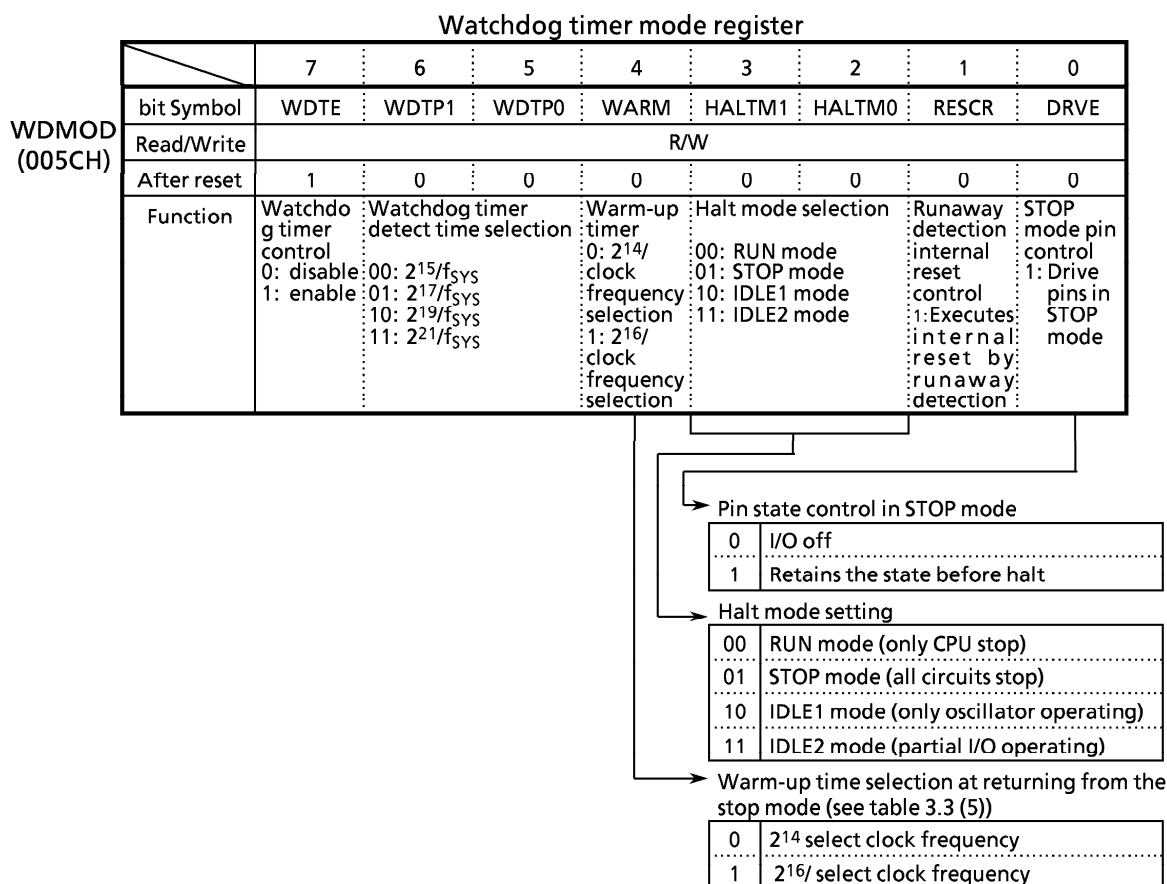

Figure 3.3 (5) Watchdog timer mode register
(1) Halt mode
When the HALT instruction is executed, the operating mode changes RUN, IDLE2, IDLE1 or STOP mode depending on the contents of the HALT mode setting register WDMOD<HALTM1,0>. Figure 3.3 (5) shows the alternative states of watchdog timer mode registers.